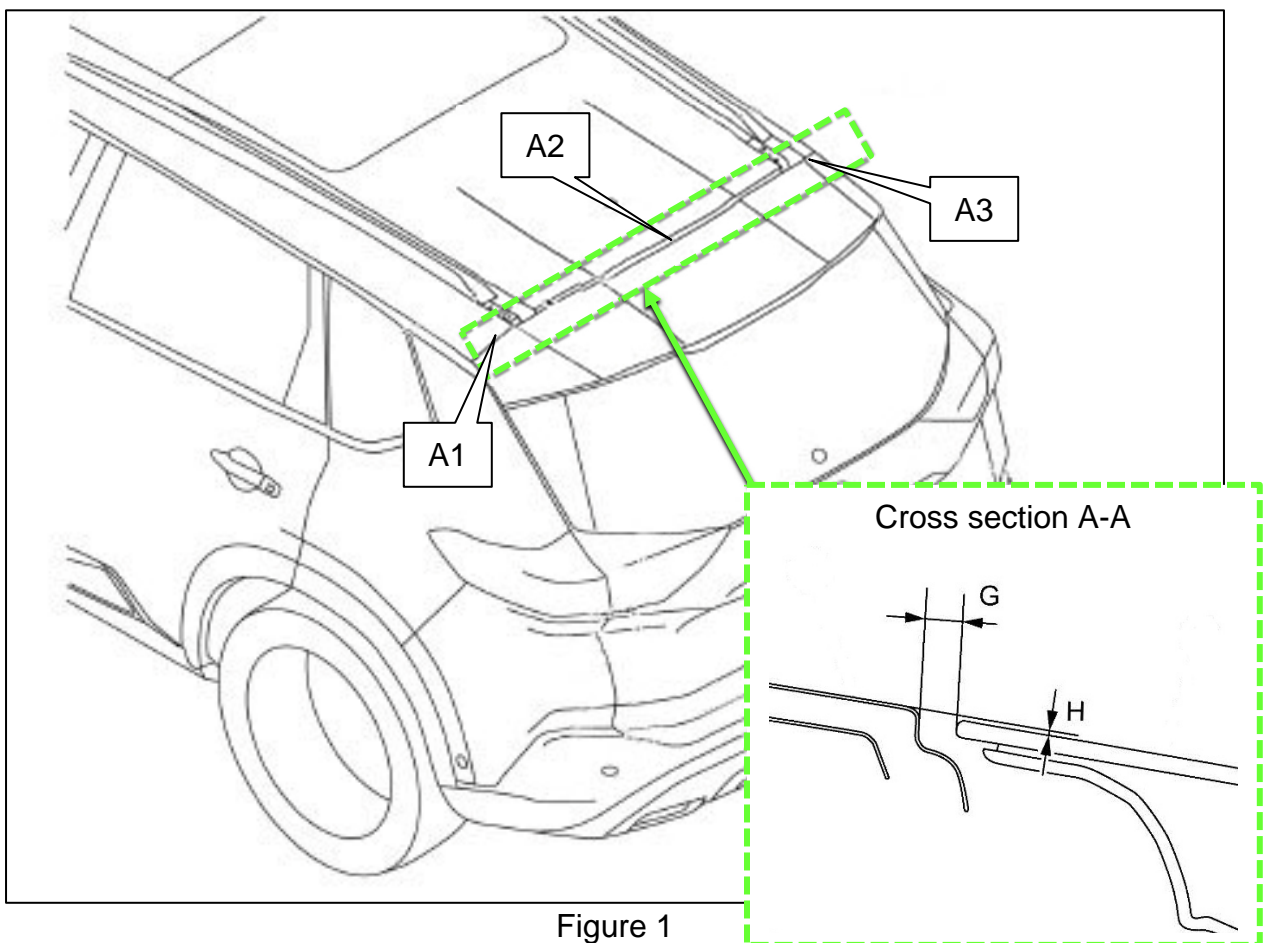

Figure 1
- Measure the Back Door to roof gaps of "G" and surface height of "H" at points A1, A2, and A3, where defined in cross section A-A (Figure 1), write the measurements on the repair order.
6. While holding the Back Door in the shifted position, temporarily tighten all six (6) bolts.
7. Close the Back Door and confirm that the surface height has now shifted towards +1.0 mm at A1, A2, and A3 (Figure 1 on page 2).
8. Open the Back Door and torque all six (6) back door bolts to 30 N•m (3.1 kg-m, **22 ft-lbs**).
10. Measure gap “G” at A1, A2, and A3 (Figure 1 on page 2) of the Back Door for correct alignment and adjust the gap as necessary.